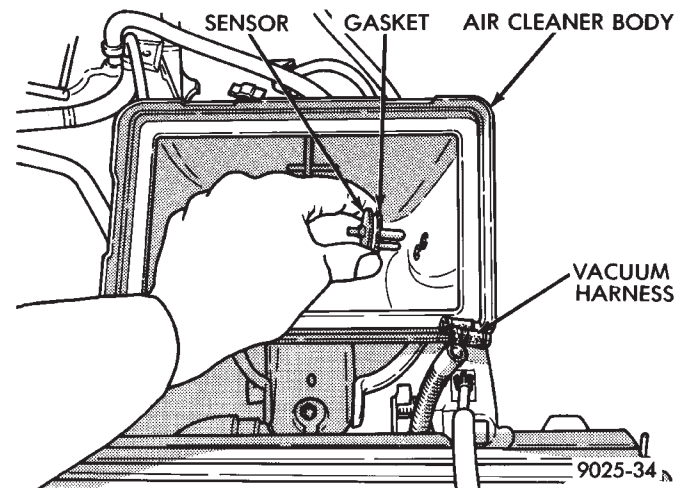

Fig. 5 Installing Gasket and Sensor
(1) Position gasket on the sensor. Install sensor (Fig. 5).
(2) While supporting the sensor on outer diameter, install new retainer clips securely. Ensure the gasket compresses to form an air seal. **Do not attempt to adjust the sensor.**